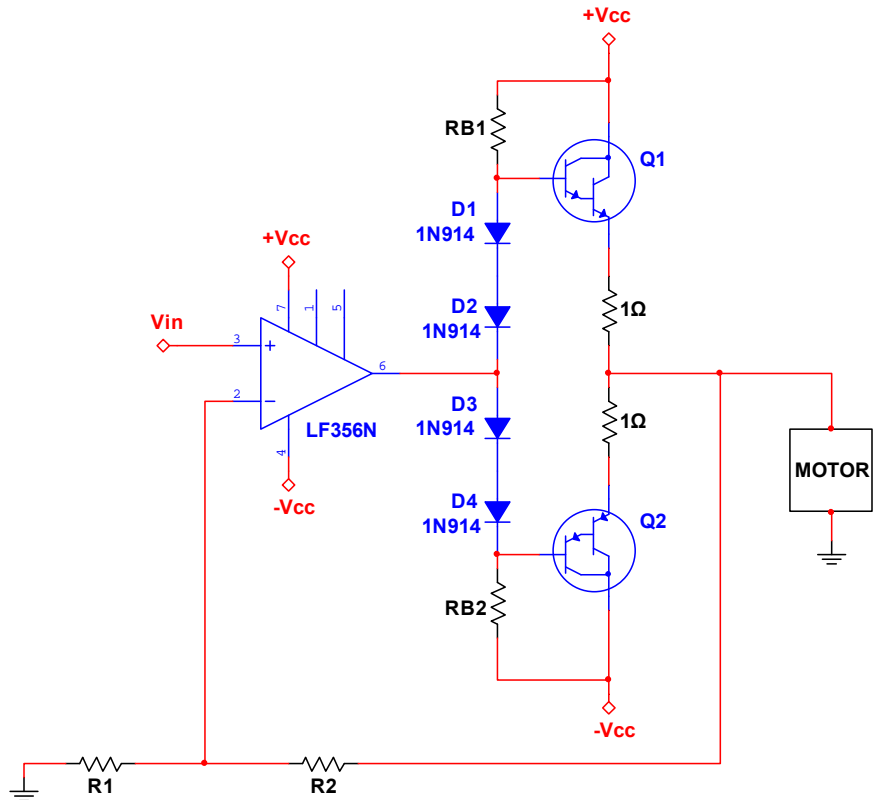

Fig. 3: Non-inverting amplifier with Darlington Class AB output stage.
- Q1 must be a MPSA29 or TIP110 Darlington transistor (see Fig. 3).